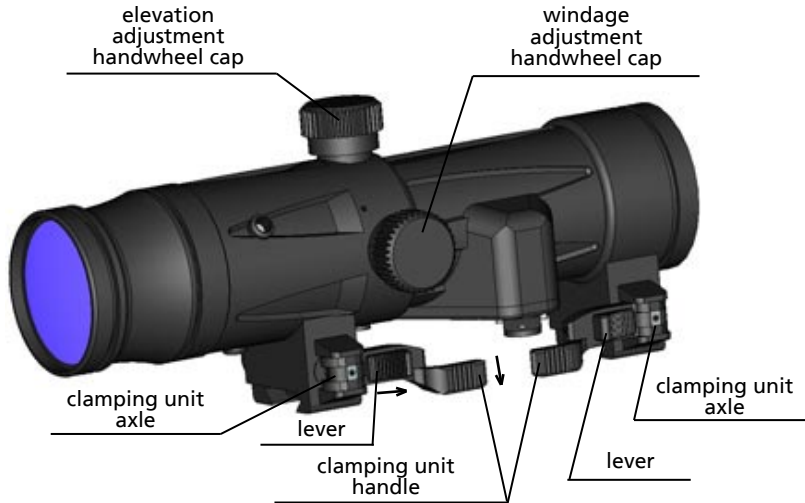

Figure 2
To protect the adjustment screws from dirt and moisture the caps are provided (figure 2).
1.6.5 The clamping unit for fixing the sight on the gun is located on the bottom part of the body (figure 2).
- Shift the lever (figure 2) and turn the clamping unit handle back.
- Fix the clamping unit handle (figure 2).
- Otherwise it is necessary to unscrew caps (figure 2) from the adjustment mechanisms. Taking into consideration the deviation direction of the bullet hole relative to the aiming point turn the adjustment mechanisms by height and by